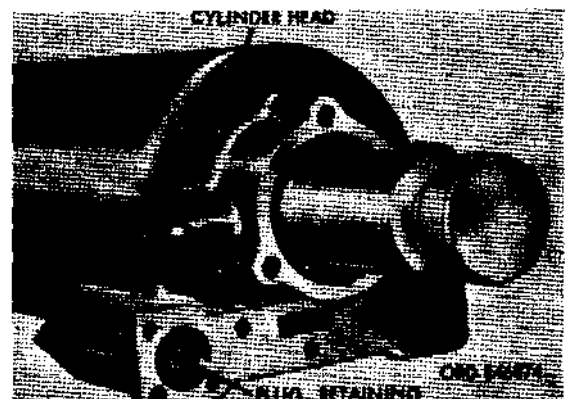

Figure 105. Location of bypass plunger spring retaining plug
- (c) Install ball, spring, and bypass plunger spring retaining plug (fig. 105) in cylinder head.